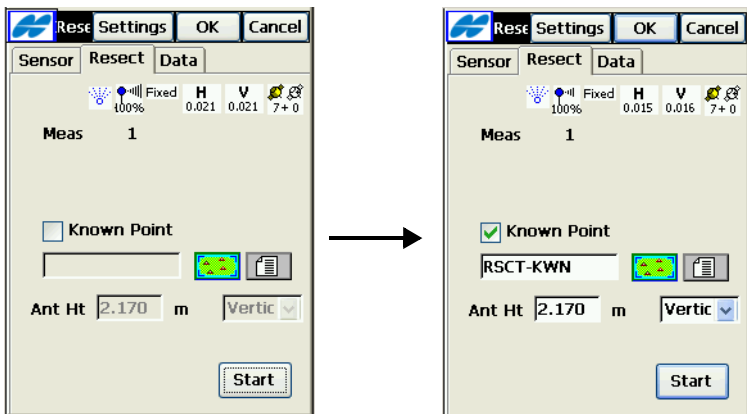

Figure A-4. Use Unknown or Known Point
5. Tap the **Resect** tab (Figure A-4).